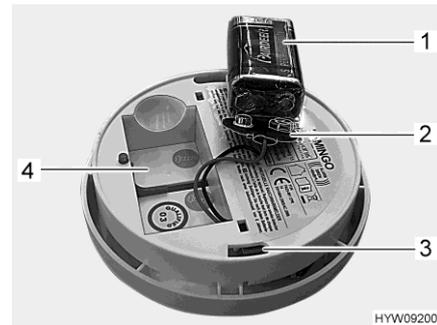

Fig. 227 Smoke alarm (rear side)
- Remove the battery and disconnect it from the battery clip (Fig. 227,2).
- Connect the new battery (Fig. 227,1) at the battery clip (Fig. 227,2). When doing so, make sure that the battery poles engage on the battery clip.
- Place the battery into the battery compartment (Fig. 227,4).
- Place the smoke alarm (Fig. 228,1) onto the holder (Fig. 228,3). The holding lugs (Fig. 228,2) must engage in the openings (Fig. 227,3) in the smoke alarm.